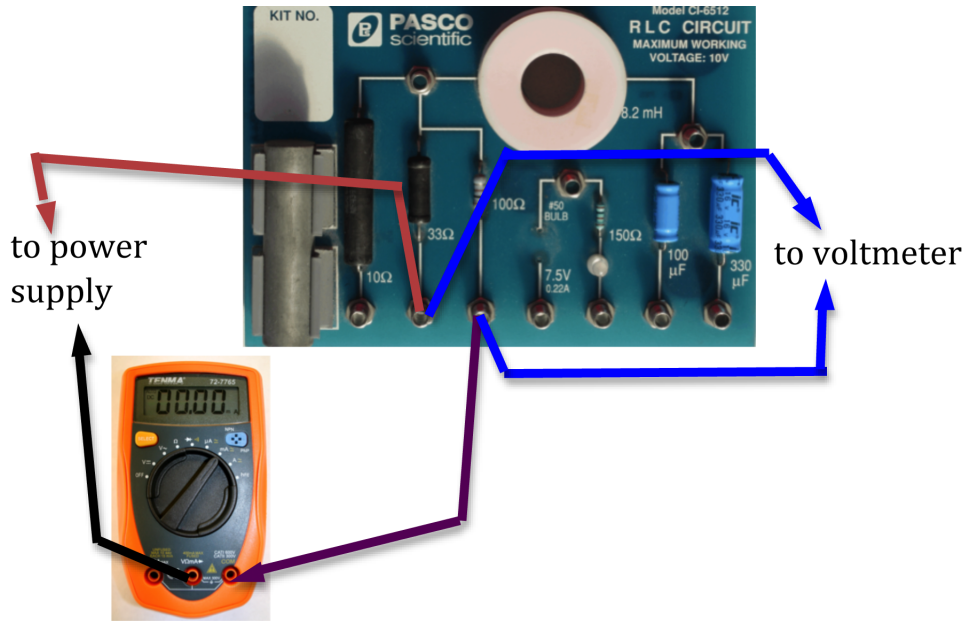
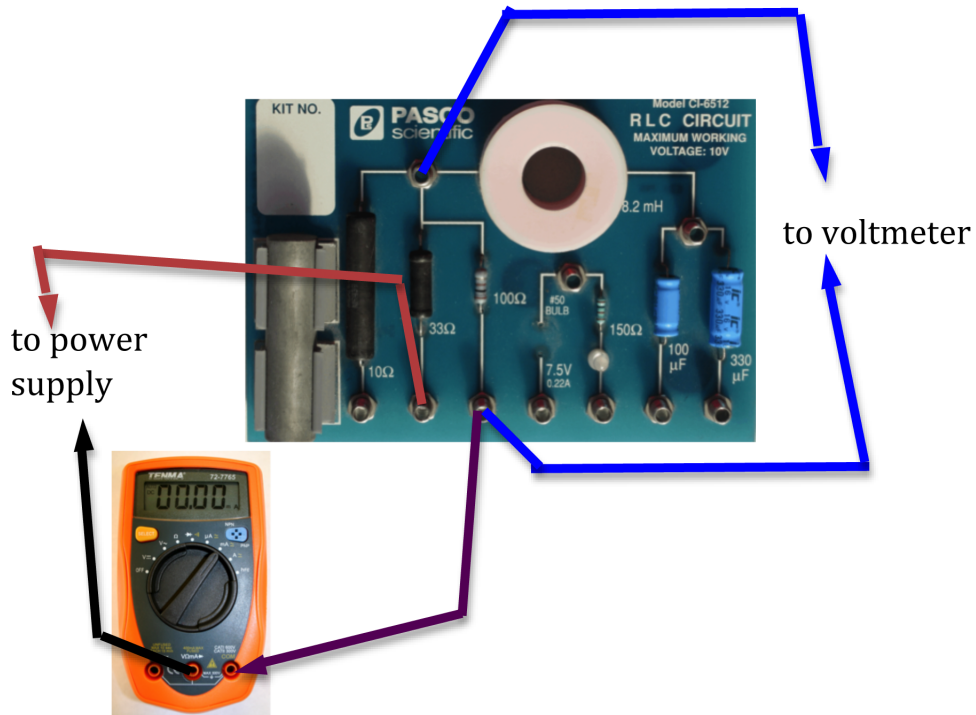

Figure 8: Connections for series circuit
Figure 9: Measuring potential difference across the 100  $\Omega$  resistor
- 13 Connect the two resistors you used before in a series arrangement. Connect one multimeter in series with the two resistors to read the current flowing in the circuit. See Fig. 8.
You will use the other multimeter as a voltmeter for measuring the potential difference across the series combination (as shown in Fig. 8), and then across each individual resistor  $R_1$  and  $R_2$ . See Figs. 9 and 10 below.